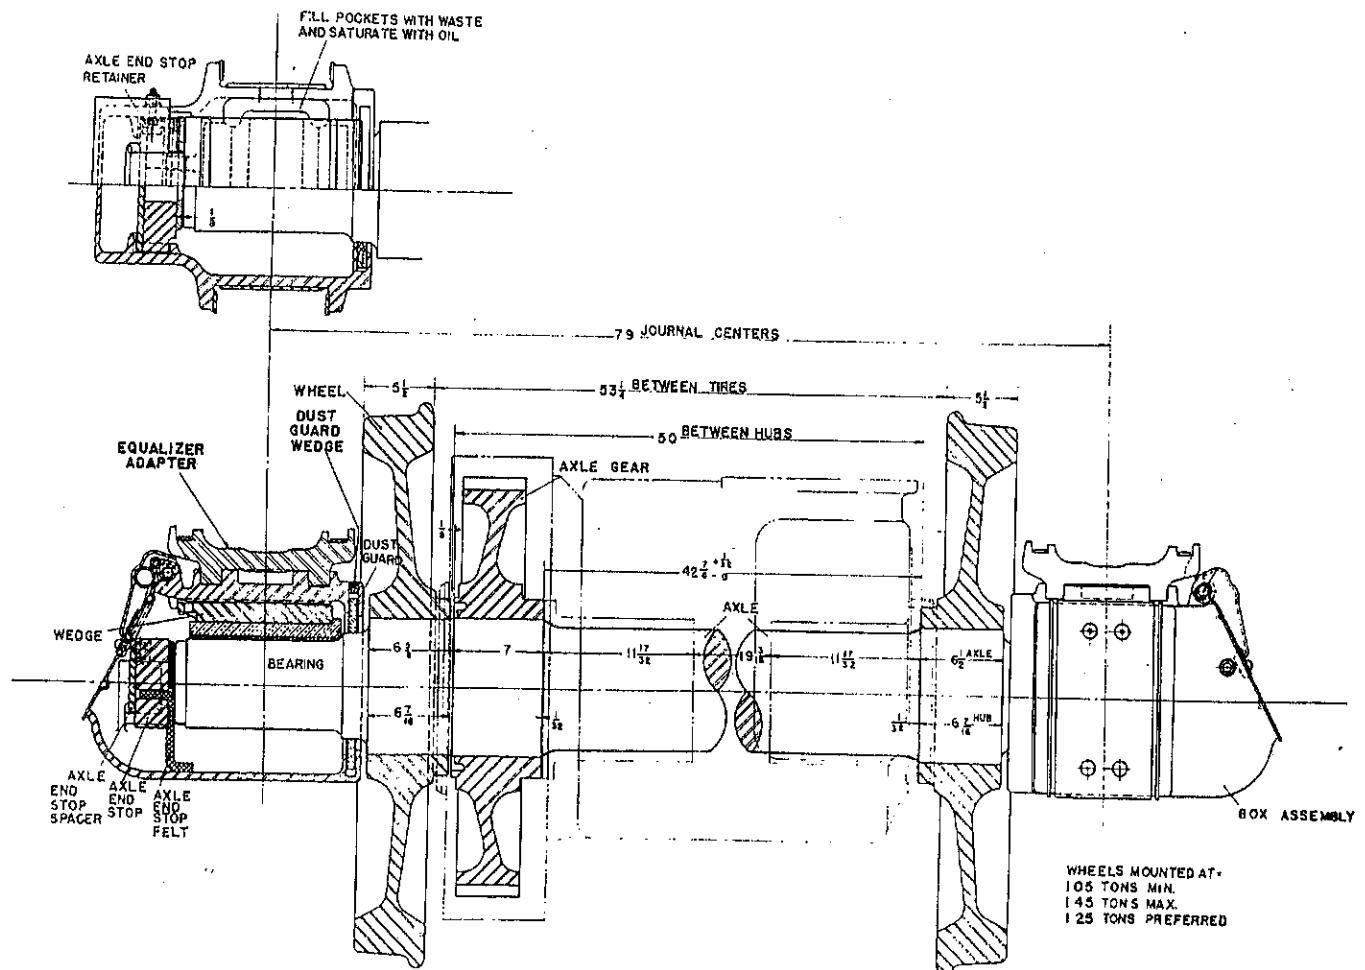

Fig. 15 - WHEEL, AXLE AND BOX ASSEMBLY WITH FRICTION BEARINGS
4. For wheel mounting refer to Figs. 15 or 16.